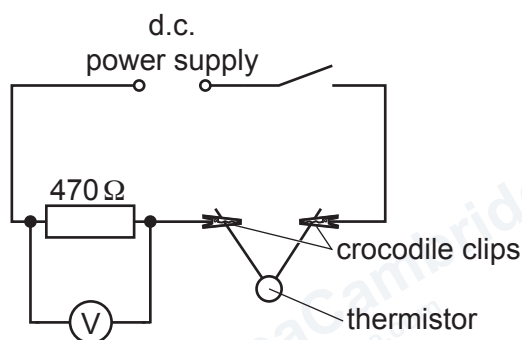

Figure 2.1
- connecting wires and crocodile clips to enable the supervisor to set up the circuit shown in Figure 2.1
The thermistor should be attached into the circuit by long leads (approximately 50 cm) to two crocodile clips as shown in Figure 2.1, to enable the candidates to dip the thermistor into iced water.